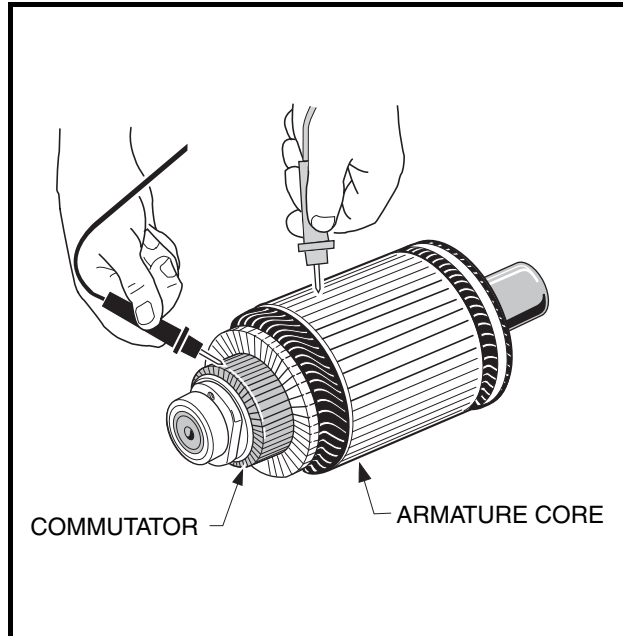

Figure 22a-6 Armature Test
1. With a multimeter set to 200 ohms, place one probe on the commutator and the other on the armature core. The multimeter should indicate no continuity (**Figure 22a-6, Page 22a-6**). If the reading is incorrect, replace the armature.
1. Inspect the insulators (4 and 7) for cracks or other damage (**Figure 22a-9, Page 22a-8**).
2. Inspect the brushes (13) for damage or excessive wear. Replace brushes if required. **See following NOTE.**